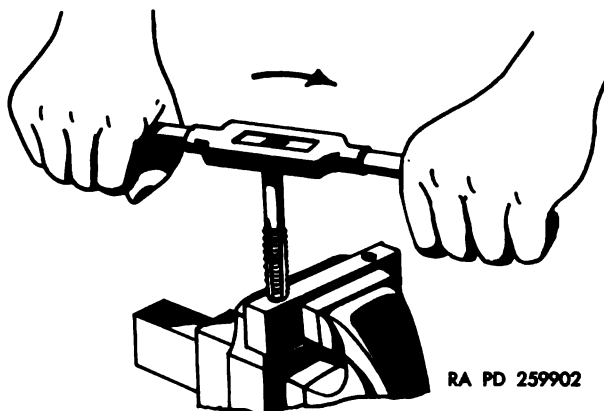

Figure 281. Using a tap and tap wrench.
- (2) Apply cutting oil to the tap and to the hole. Place the point of the tap in the hole and rotate the tap (fig. 281) clockwise for right-hand threads and counterclockwise for left-hand threads.